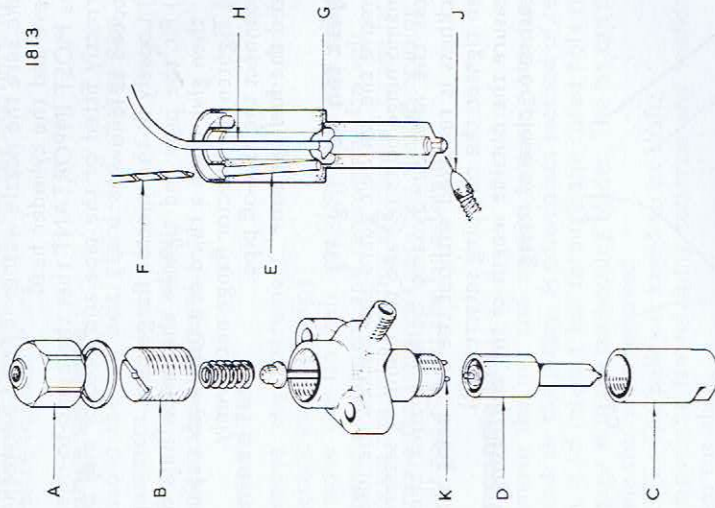

Fig. 18
63. Fuel injector maintenance (Fig. 18)
- (b) Remove the nozzle holder cap nut (A) and the adjusting screw (B).
- (c) Remove the nozzle nut (C) and the nozzle assembly (D). Each needle of a nozzle assembly is mated to one nozzle body and must never be used in another.
- (f) The nozzle body fuel feed holes (E) should be cleaned by pushing a wire or twist drill (F) down to the fuel chamber (G) being careful not to scratch the joint face.
- (g) Insert the nozzle scraper (H) down into the fuel chamber, press sideways and rotate to remove carbon, etc.
- (h) Soft carbon can be removed from the spray holes with the spray hole cleaner (J). Care must be taken that the wire is not broken off in the spray hole.